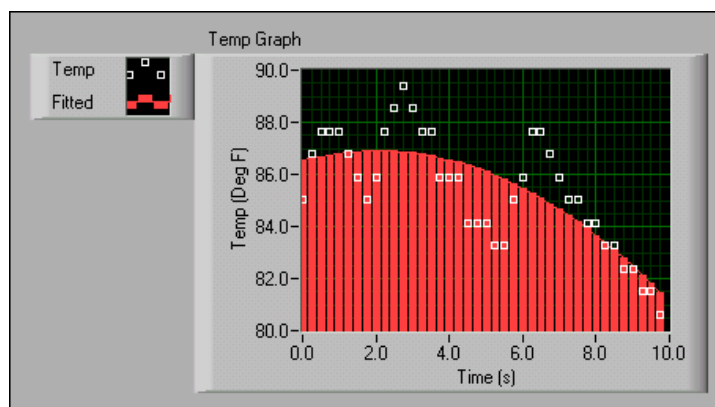

Figure 7.24
- b. Right-click the Fitted plot display in the plot legend, select Bar Plots from the shortcut menu, and select the second option in the middle row. The waveform graph should appear similar to the front panel in Figure 7.24.